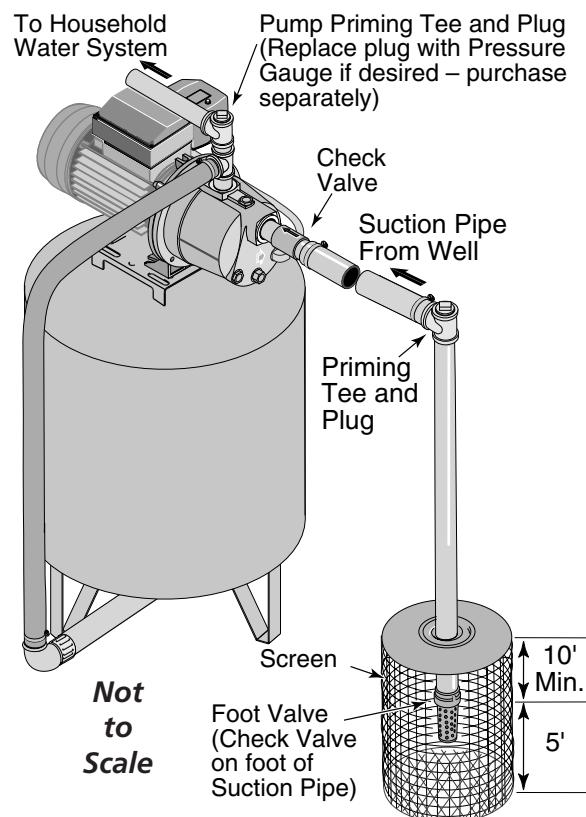

Figure 3 - Surface Water Installation
INSTALLATION FOR SURFACE WATER (FIGURE 3)
2. Assemble a foot valve and suction pipe (see Figure 3). Make sure that the foot valve works freely. Use teflon tape on threaded pipe joints. Protect the foot valve assembly from fish, trash, etc, by installing a screen around it (see Figure 3).
4. Install a priming tee, priming plug, and suction pipe to the pump (see Figure 3). Support the pipe so that there are no dips or sags in the pipe, so it doesn't strain the pump body, and so that it slopes slightly upward from the well to the pump (high spots can cause air pockets which can air lock the pump). Seal the suction pipe joints with teflon tape. Joints must be air-tight and water-tight. **If the suction pipe can suck air, the pump cannot pull water from the well.**